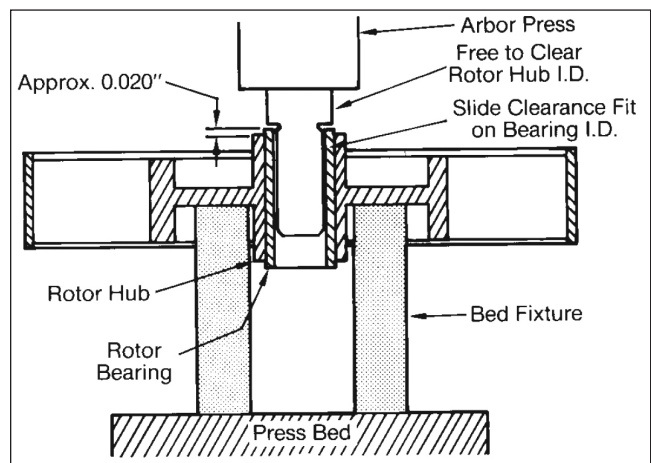

Figure 12
- a. With proper tool and fixture, Figure 12, the old rotor bearing may be forced out of the rotor hub with an arbor press. Care must be taken in the selection of tool and fixture to insure a "straight line" or axial press only. Push the bearing out with a smooth, steady motion.